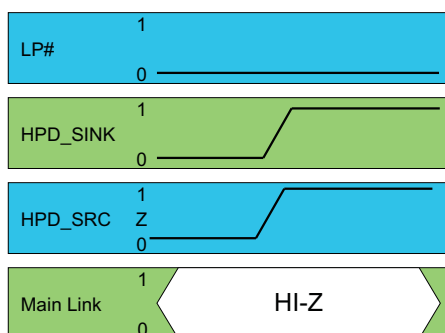

Figure 16.
- **Case one:** In this case HPD_SINK is initially LOW and the low power pin is also LOW. In this initial state the device is in a low power mode. Once the HPD input goes to a HIGH state the device will remain in the low power mode with both the main link and auxiliary I/O in a high impedance state. Refer Figure 16. However the HPD_SRC signal is not gated by the LP# pin. HPD_SRC will follow HPD_SINK after the propagation delay $t_{PD(HPD)}$.